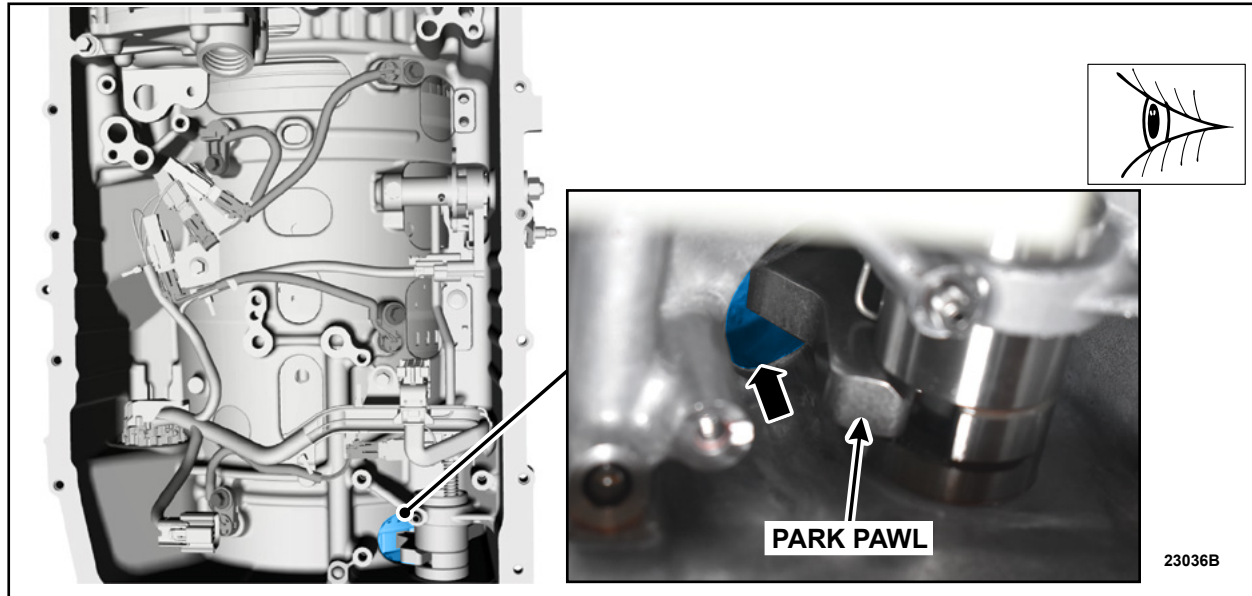

FIGURE 3
5. Visually inspect the park pawl area for a bolt. See Figure 3. Is a bolt present?